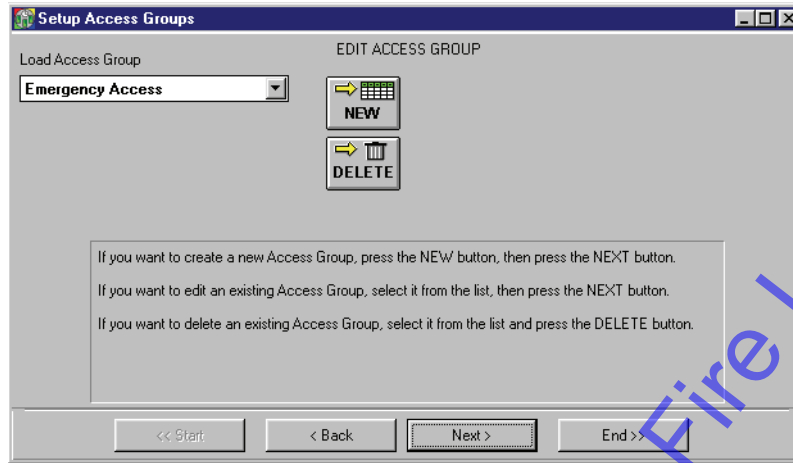

Figure 3-50: Selected Access Group for Deletion
- Click on the  arrow in the “Access Group Names” field and a list of available access groups will appear. Scroll through this list and locate the desired access group for deleting. For this example, click on the “Emergency Access” time zone and that access group is entered into the “Access Group Names” field (see Figure 3-50).